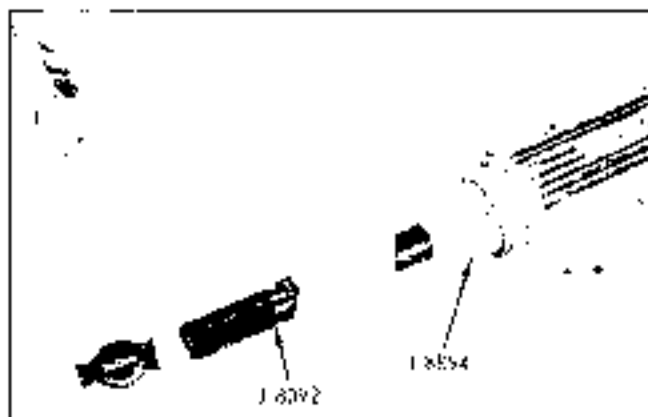

Fig. 6-17 Installing Camshaft Rear Plug
4. Using J 8894 install new oversize camshaft bore plug until fully seated (Fig. 6-17).